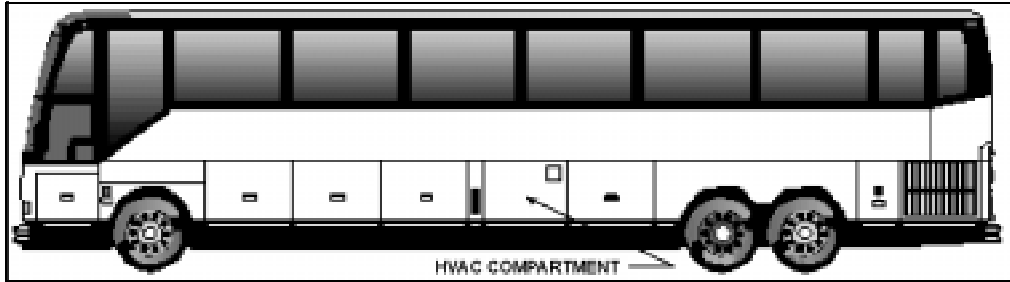

FIGURE 1 : H3-45
1. Open the HVAC compartment door (refer to fig. 1).